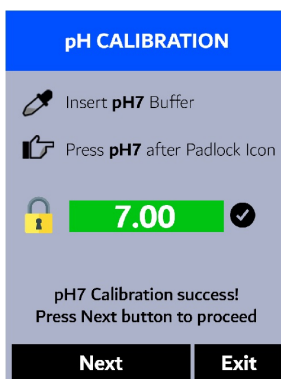

Figure 46.
11. If the calibration succeeds, a checkmark (✅) and a "pH7 Calibration success!" message will appear (Figure 46). Otherwise, a warning message is displayed.